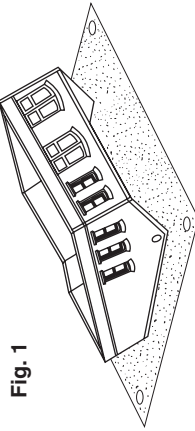

Fig. 1
5. As shown in Fig. 1, turn assembled building upside down and sand top edges on both slopes.